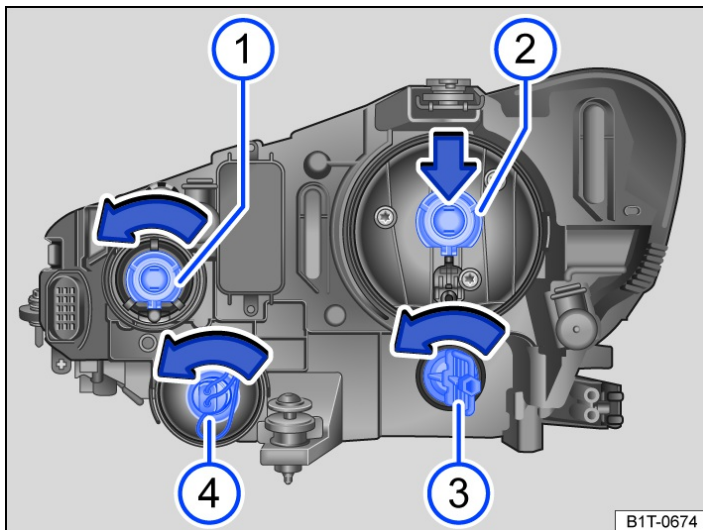

Fig. 2 In the engine compartment: changing bulbs in the left-hand headlight.
4. Turn the bulb holder → Fig. 2 ① in the direction of arrow as far as it will go and pull it out to the rear.
6. Insert the bulb holder → Fig. 2 ① into the headlight and turn as far as it will go in the opposite direction to the arrow.